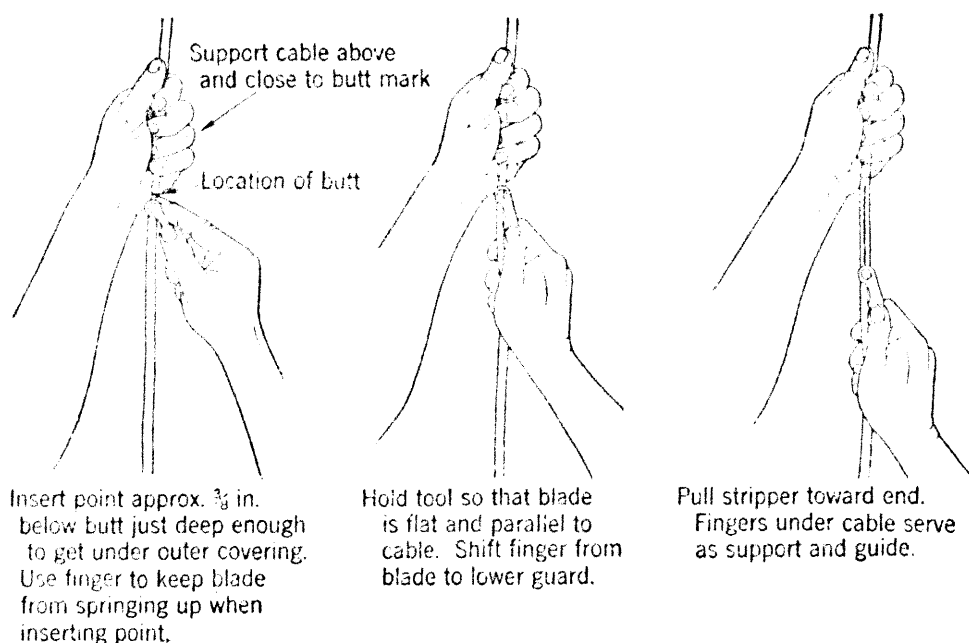

Fig. 1.
3.03 **Braid-Covered (Inside Wiring) Cable:** Fig. 1 shows the method of using the cable stripper (R-62267 tool). Note that the hand supporting the cable is above the hand holding the tool. With the hands in this position, the possibility of injury is eliminated in case the stripper pulls out of the sheathing. This also prevents the loosening of the fastener nearest the butt. Start to strip the cable at a point approximately $\frac{3}{8}$ inch from the butt mark. Holding the tool flat or parallel to the cable when pulling it along tends to prevent the point from "digging into" or "pulling out" of the sheathing.